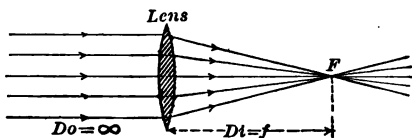

FIG. 419. — Image of distant object is at  $F$ .
**448. Discussion of the lens formula.** If the object is so far away that the rays from any point of it to different parts of the lens are practically parallel, the image is formed at  $F$ ; for  $D_o$  is very large, and so  $\frac{1}{D_o}$  is nearly zero; this leads to  $D_i = f$ , as shown in figure 419.